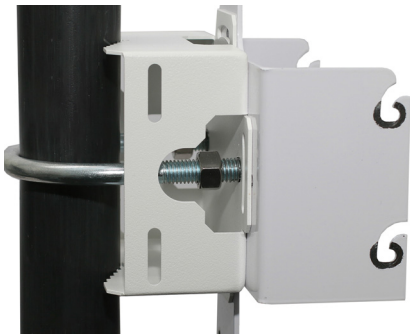

Figure 4: U-Bolt and Pole Mount Bracket Assembly
- Slide the wall mount bracket onto the U-bolt, with the receiving slots facing upwards, and place the two  $\frac{1}{2}$  in. washers, then the two  $\frac{1}{2}$  in. nuts onto the U-bolt, one on each thread. Torque the outer nuts to 150 in/lb. See Figures 4 and 5.